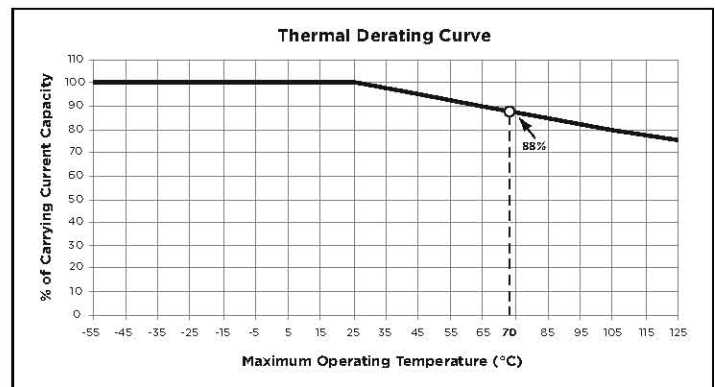

Figure 2. Thermal Derating Curve
A fuse is a temperature sensitive device. Therefore, operating temperature will have an effect on fuse performance and life-time. Operating temperature should be taken into consideration when selecting the fuse current rating. The Thermal Derating Curve for Raychem surface mount chip fuses is presented in Figure 2. Use it to determine the derating percentage based on operating temperature and apply it to the derated system current.
$K_{\text{temp}}$  is the % derating determined from the Thermal Derating Curve in Figure 2
$$K_{\text{temp}} = 88\% \text{ (determined from Figure 2)}$$
Once the pulse cycle derating has been applied to the calculated  $I^2t$  value, derating for operating temperature should be applied according to the thermal derating curve shown in Figure 2.
- **Step 4—Apply Pulse Temperature Derating**—Derate the  $I^2t$  value based on system operating temperature. In this example apply 88% thermal derating at 70°C from Figure 2.